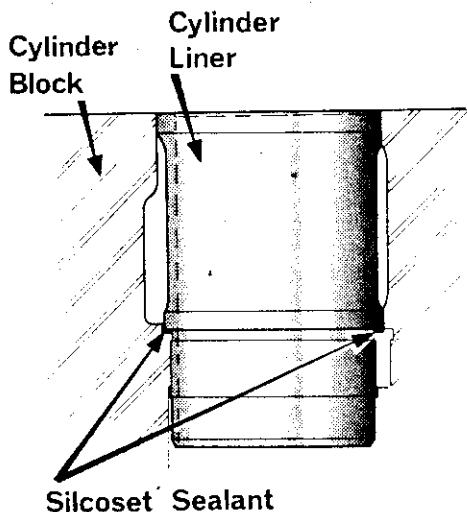

Figure 28 Sealing cylinder liners
1. Smear "Silcoset 152" sealing compound thinly around the seating face of the liner and its location in the cylinder block, making a thin but complete 360° seal. (Figure 28)